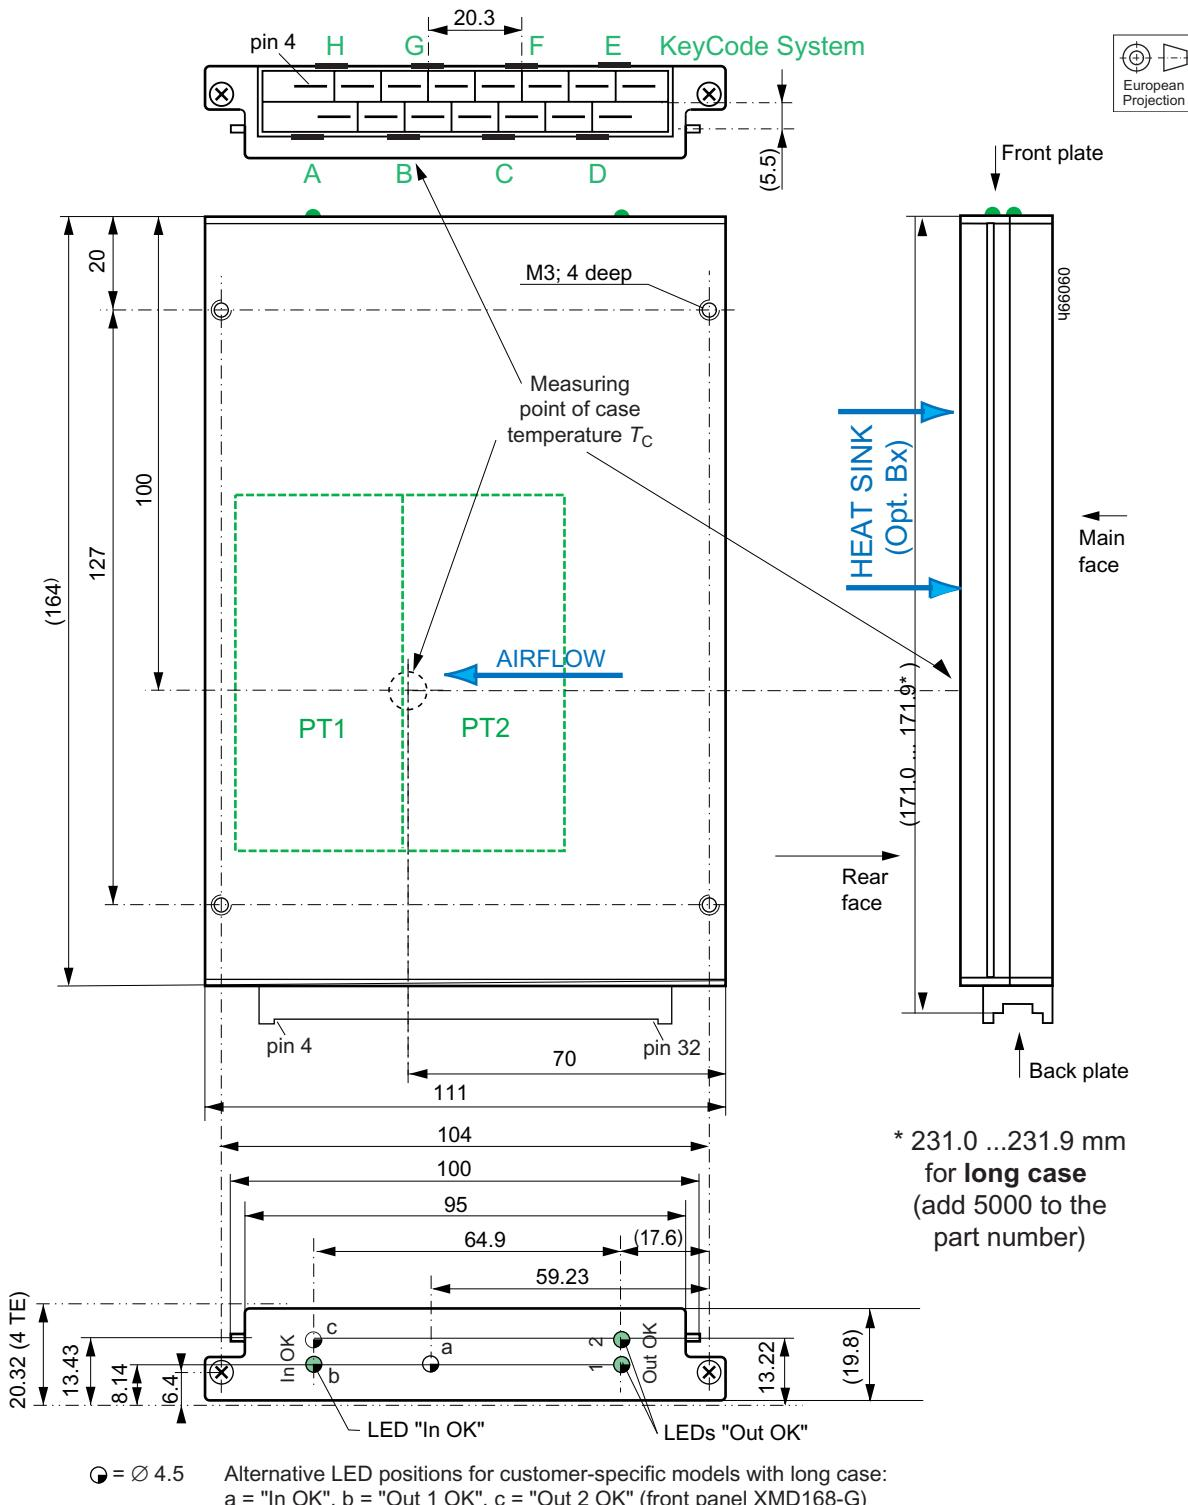

Fig. 23
*The KeyCode positions are shown in fig. 23.*